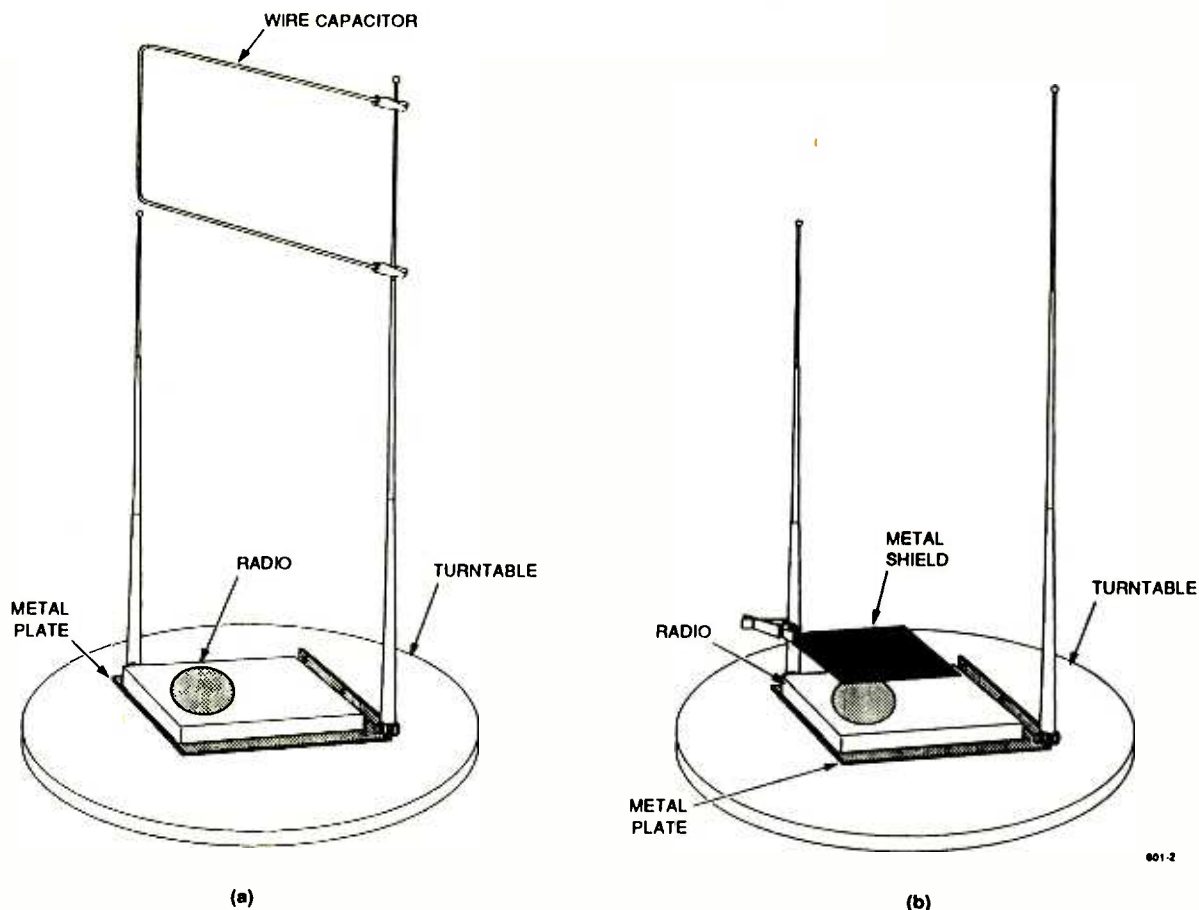

FIGURE 2: Two schemes which may possibly improve performance
3. Plate and radio rest on the turntable and are rotated together. See Figure 2.
The detailed behavior of the basic scheme described above depends on the location. When the initially obtained null depth is inadequate, the modifications shown in Figure 2 may help.